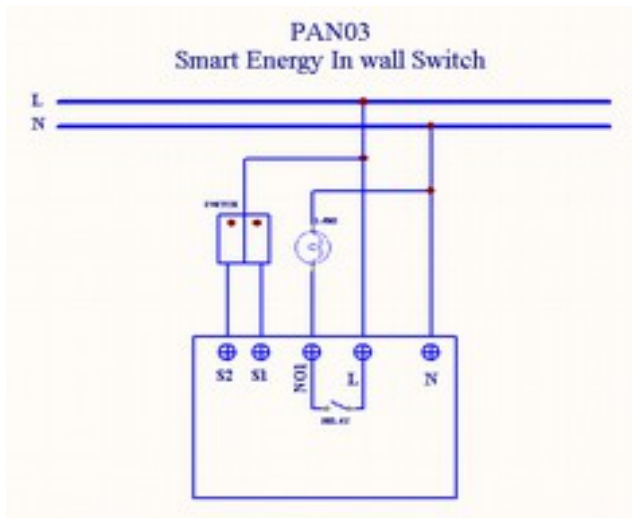

Fig 1. Assembling
2. Connect the wall switch to the PAN03 as Fig1 .